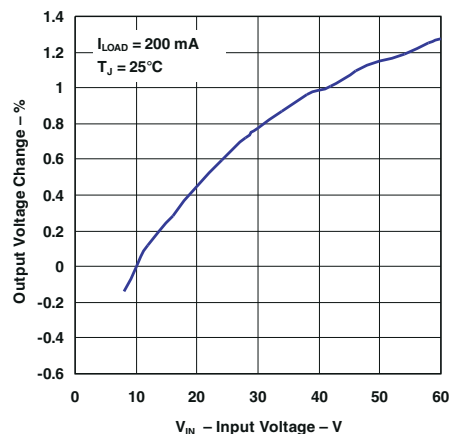

Figure 6-2. Line Regulation
1. Programming Output Voltage (Selecting R1 and R2) Referring to Figure 6-2, V_{OUT} is defined by: $V_{OUT} = V_{REF} \left(1 + \frac{R2}{R1} \right) \quad \text{where } V_{REF} = 1.23 \text{ V}$ Choose a value for R1 between 1 kΩ and 5 kΩ (use 1% metal-film resistors for best temperature coefficient and stability over time). $R2 = R1 \left(\frac{V_{OUT}}{V_{REF}} - 1 \right)$	1. Programming Output Voltage (Selecting R1 and R2) Select R1 = 1 kΩ $R2 = 1 (10 / 1.23 - 1) = 7.13 \text{ k}\Omega$ Select R2 = 7.15 kΩ (closest 1% value)